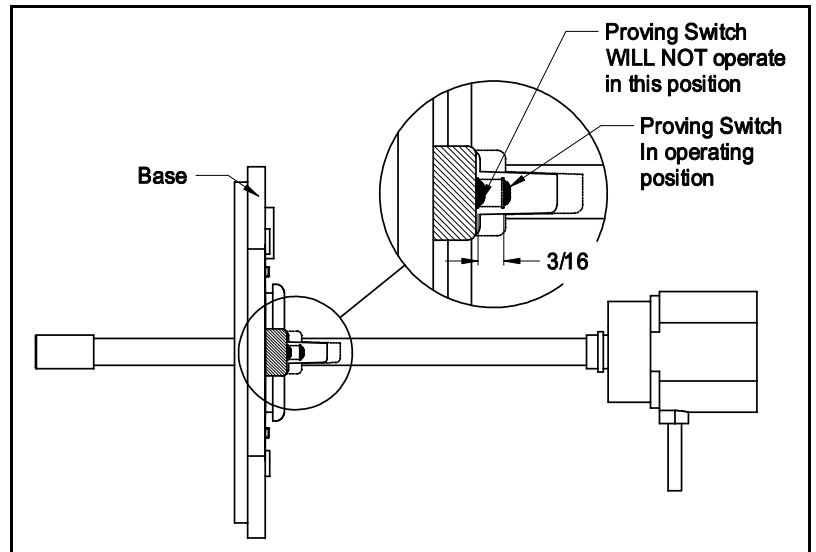

Figure 6
- If blue glow is not seen, make sure base is properly installed onto duct. There is a proving switch located on the base that needs to be seated properly onto the duct. **Make sure that when base is mounted that the plated washer on the switch is raised approximately 3/16" and the switch is fully engaged.** (See Figure 6)